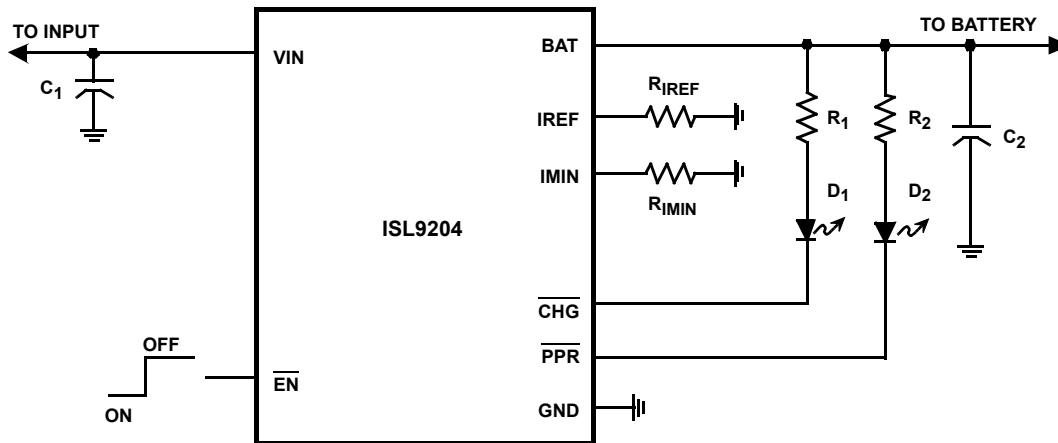
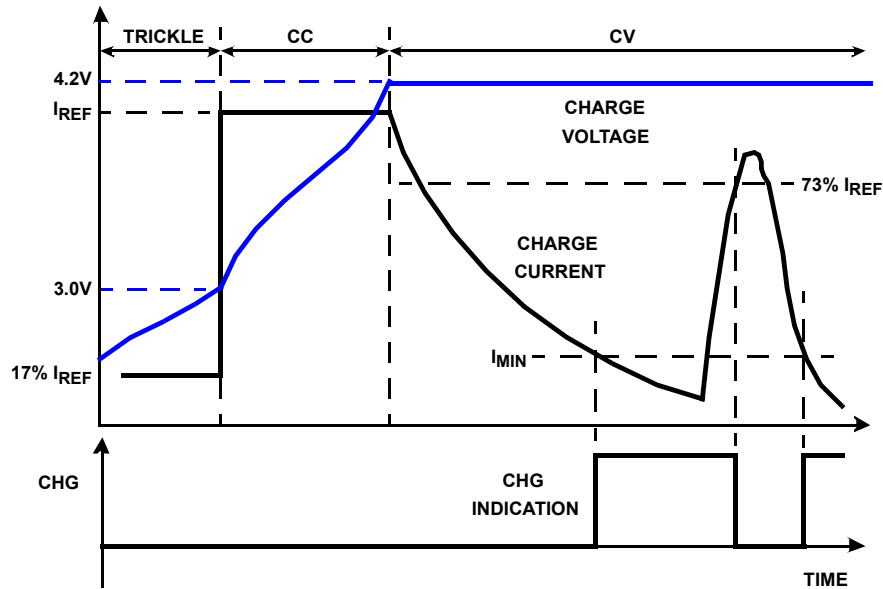

FIGURE 9. TYPICAL APPLICATION CIRCUIT INTERFACING TO INDICATION LEDES
FIGURE 12. TYPICAL CHARGE PROFILE
TABLE 1. COMPONENT DESCRIPTION FOR FIGURE 9
The ISL9204 charges a Li-ion battery with a constant current (CC) or a constant voltage (CV). The constant current  $I_{REF}$  is set with the external resistor  $R_{IREF}$  (see Figure 9) and the constant voltage is fixed at 4.2V. If the battery voltage is below a typical 2.8V trickle-charge threshold, the ISL9204 charges the battery with a trickle current until the battery voltage rises above the trickle charge threshold. When the battery voltage reaches 4.2V, the charger enters a CV mode and regulates the battery voltage at 4.2V to fully charge the battery without the risk of over charge. Upon reaching an end-of-charge (EOC) current, the charger indicates the charge completion with the CHG pin, but the charger continues to output the 4.2V voltage. Figure 12 shows the typical charge profile and the EOC/reset event.
The EOC current level  $I_{MIN}$  is programmable with the external resistor  $R_{IMIN}$  (see Figure 9). The CHG signal turns to LOW when the trickle charge starts and rises to HIGH at the EOC. After the EOC is reached, the charge current has to rise to typically 73%  $I_{REF}$  for the CHG signal to turn on again, as shown in Figure 12. The current surge after EOC can be caused by a load connected to the battery.
The PPR pin can be used to drive an LED (see Figure 9) or to interface with a microprocessor.